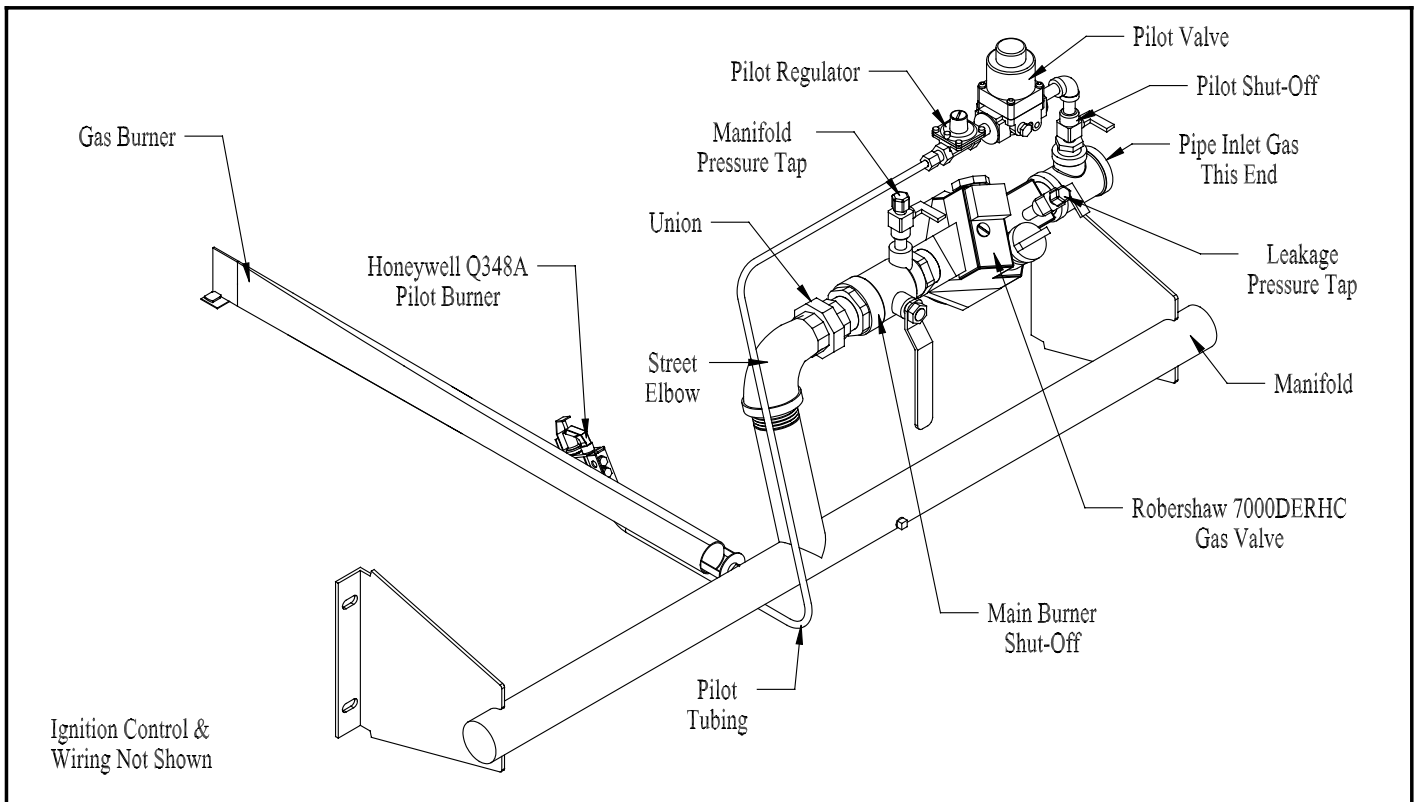

Figure 8: Gas Train - CSD-1 Build, 16-455, 16-520,& 16-585
- 1) The CSD-1 gas valve assembly has been pre-piped with one half of a piping union and is to be connected to the other half of the union located on the gas manifold. See Figure 8.